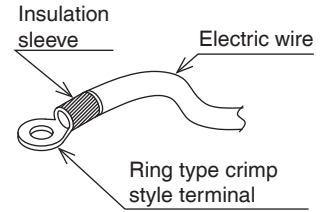

Fig. 11
- Be sure to use ring type crimp style terminals with insulation sleeves to connect wires to the power supply terminal block. (**Refer to Fig. 11.**)